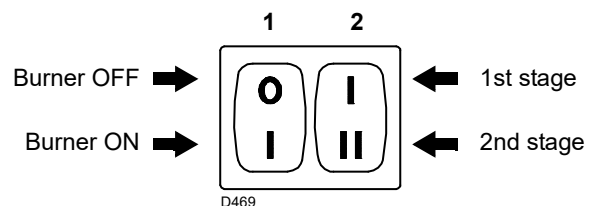
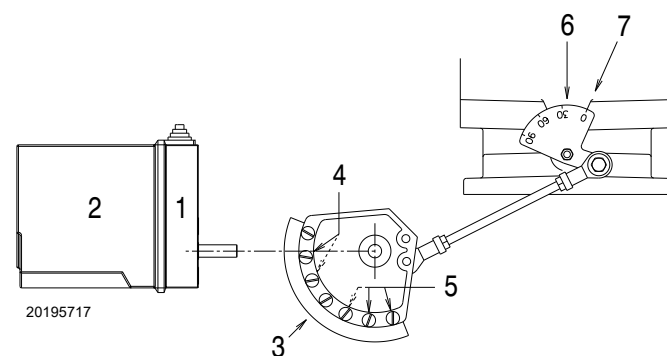

Fig. 28
Fig. 33
- switch 1)(Fig. 28) to the “Burner ON” position;
- switch 2)(Fig. 28) to the “1st stage” position.
Turn switch 2)(Fig. 28) to the 2nd stage position: the servomotor will open the air damper and, at the same time, also the gas butterfly valve opens at 90°.
Progressively adjust the end profile of cam 3)(Fig. 33) by turning the screws 5).
Turn the switch 2)(Fig. 28 on page 24) to the 1st stage position: the servomotor 1)(Fig. 33) will close the air damper and, at the same time, also the gas butterfly valve closes to 15°, i.e. to the factory setting.
Progressively adjust the initial profile of the cam 3)(Fig. 33) by turning the screws 4).